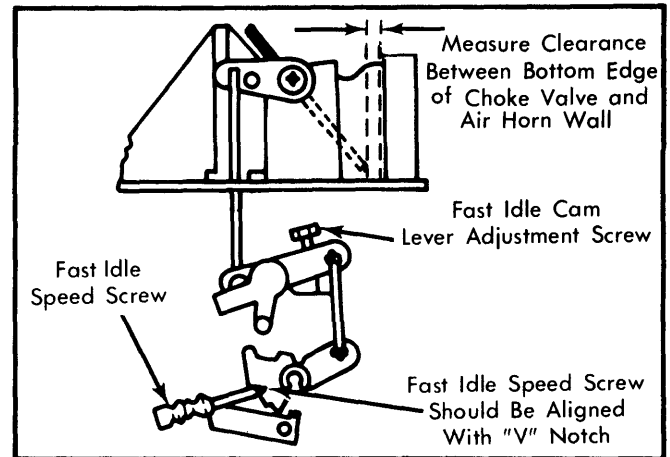

Fig. 7 Adjusting Fast Idle Cam Index
2) To adjust, turn fast idle cam lever adjustment screw. See Fig. 7. Reconnect vacuum hose and perform Automatic Choke adjustment to reset thermostatic housing to specification.